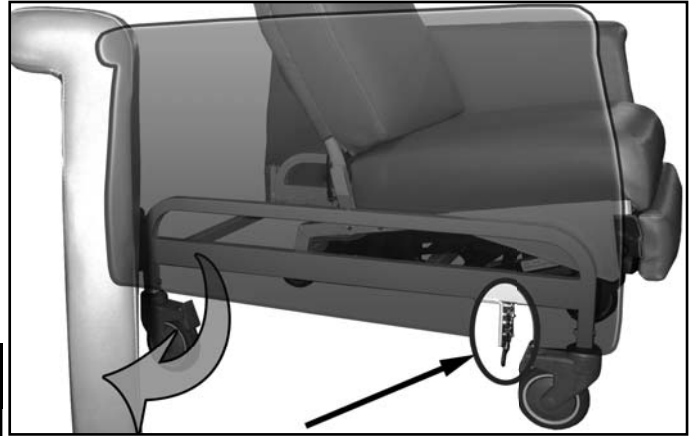

FIG. 1
1. To open, depress the red latch handle to unlock the swing-arm. (FIG. 1)
2. To close, push swing-arm toward latch until latch engages. (FIG. 1)